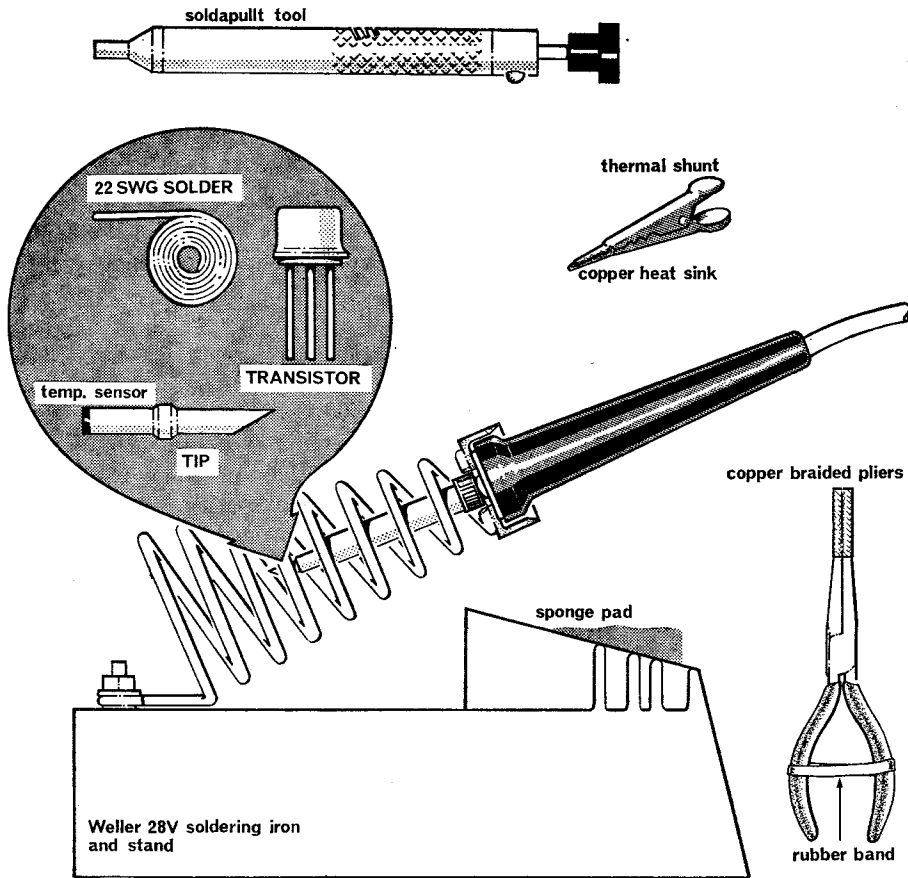

Fig. 1 Soldering
a. **Heat sink.** An efficient heat sink must be used between the soldering point and the body of the semiconductor. There are many forms of clip-on heat sink made from copper and crocodile clips, but some of these may prove too large for easy working on semiconductors. A very effective method is to use long nosed pliers which have had a short length of copper cable-braiding slipped over each of the jaws (see fig. 1). Manufacturers quote a minimum distance between the soldering point and the body of the device. On service equipment the recommended minimum distance is 5mm (0.2 in.).
in Figure 1 (1B/1278853). This can be fitted with a range of tip sizes, the most suitable for semiconductor work being a single-flat $\frac{1}{8}$ in tip working at 260°C. Where multi-lead devices are being fitted it is essential to allow a short time (about 20 seconds) between joints to allow the device to cool and the iron to regain the correct working temperature.